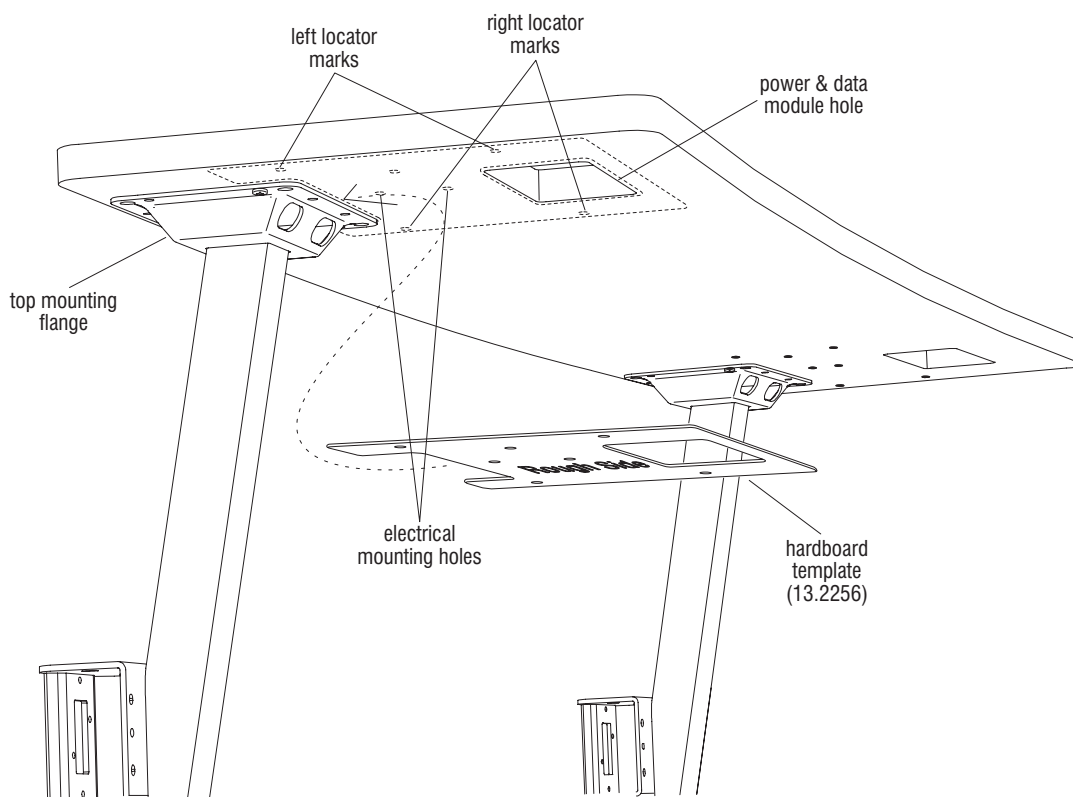

Figure 6
17. Use the hardboard template provided to check each PowerUp module hole location. To do this, straddle the template against the top mounting flange at the underside of the table top as illustrated. The template must be positioned with the smooth side facing up against the underside of the table top. The PowerUp module hole in the table top must fall within the cut-out in the hardboard template (Figure 6).
19. After table tops are solidly attached to the properly positioned bases, place the template under the table top again, with the smooth side up, straddling the table top mounting flange. Draw with a pencil through the template holes, the left and right locator marks (looking up from underneath at the front of the table top) and the mounting holes for the electrical components. This is to be done along the run of all bases and table tops (Figure 6).